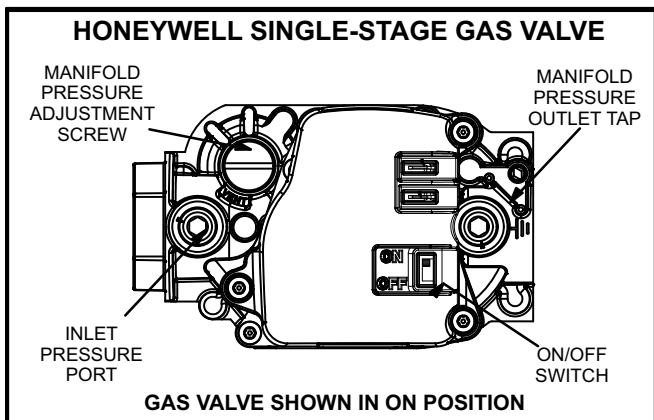

FIGURE 2
- 2 - Remove the heating compartment access panel. Move the automatic gas valve switch to the OFF position. See figure 2 .
- 6 - Move gas valve switch to **OFF**. See figure 2.
- 7 - Wait five (5) minutes for any gas to clear out. If you then smell gas, **STOP!** Immediately call your gas supplier from a neighbor's phone. Follow the gas supplier's instructions. If you do not smell gas, go to the next step.
- 8 - Move the gas valve switch to **ON**. See figure 2.
When testing supply gas pressure, use the 1/8" N.P.T. plugged tap or pressure post located on the gas valve to facilitate test gauge connection. See figure 2. Check gas line pressure with unit firing at maximum rate. Low pressure may result in erratic operation or underfire. High pressure can result in permanent damage to gas valve or overfire.
- 1 - Connect the test gauge to the manifold pressure tap (figure 2) on the gas valve.
- 4 - Make adjustments if necessary. Figure 2 shows the location of the manifold pressure adjustment screw.